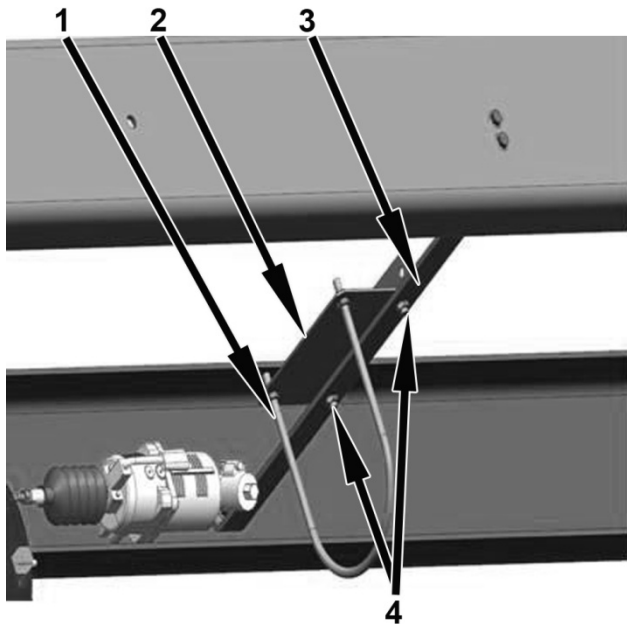

Figure 2 New Bracket Installed for Driveshaft Safety Loop
3. Place and hold new bracket with flange on top of existing bracket with flange even with back of bracket on bus (Figure 2).